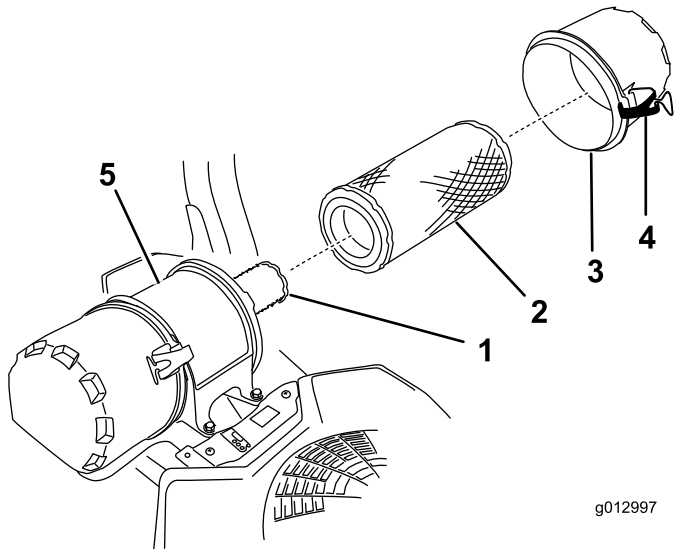

Figure 28
6. Release the latches on the air cleaner and pull the air-cleaner cover off the air-cleaner body (Figure 28).
8. Gently slide the outer filter out of the air-cleaner body (Figure 28).
2. If you are replacing the inner filter, carefully slide it into the filter body (Figure 28).
3. Carefully slide the outer filter over the safety filter (Figure 28).